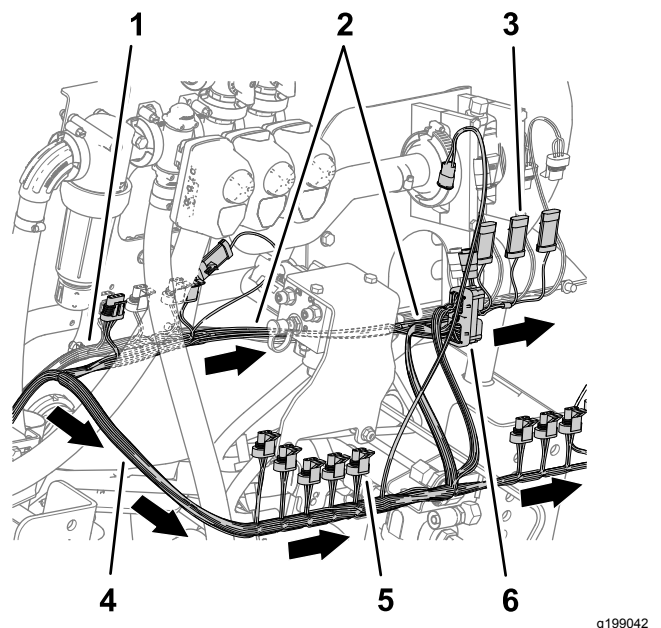

Figure 85
7. At the back of the machine, route the 89 cm (35 inch) wire-harness branch forward of the lift manifold, and to the right of the flow meter as shown in Figure 85.
8. Route the 102 cm (40 inch) wire-harness branch rearward of the lift manifold, and to the right as shown in Figure 85.